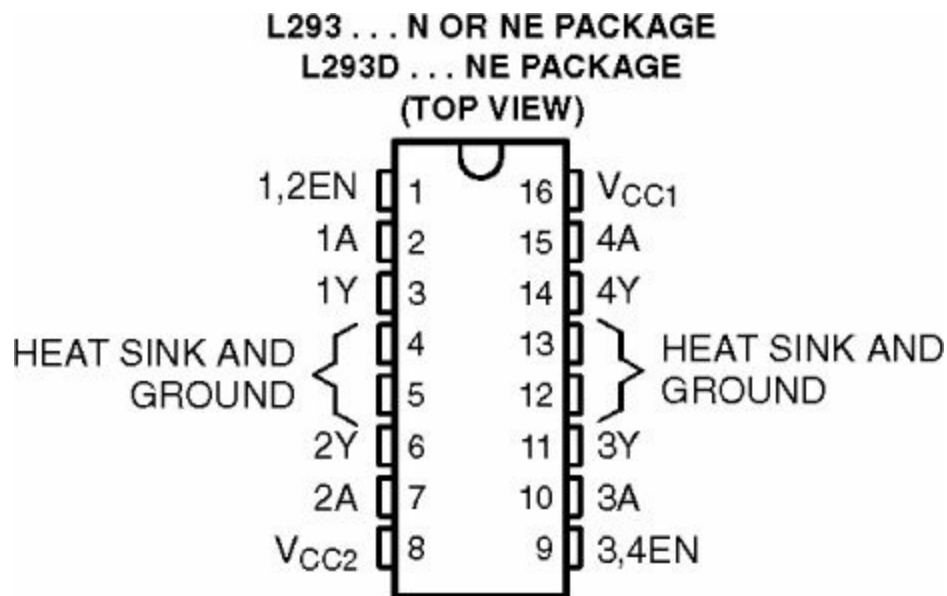

Figure 8-2 L293DNE pinout
A datasheet for an integrated circuit (IC) usually contains a pinout of the part's pins that displays their functions and where they are physically located on the chip (see Figure 8-2). There is always a indicator on the diagram as to where the first pin is on the circuit; this is very important because wiring the circuit the wrong way can cause damage to both the chip and the circuitry. The pins are all labeled using short acronyms, which are explained later in the datasheet. For example, Vcc is the supply voltage (usually a 5V or 3.3V), GND is ground, and EN is the pin that enables a certain function of the IC (usually, it prepares the circuit to receive data). If you are connecting an I2C device, you will see SCL and SDA, which indicate the clock and the data pins, respectively.